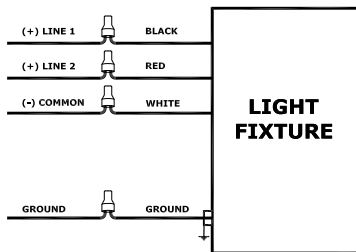

Fig. 4
1. 2x, 3x and 4x fixtures can be separately switched. The black and red fixture leads are for two separately switched circuits. Connect the black fixture lead to (+) LINE 1 supply lead and red fixture lead to (+) LINE 2 supply lead. Follow wiring diagram as in fig. 4.